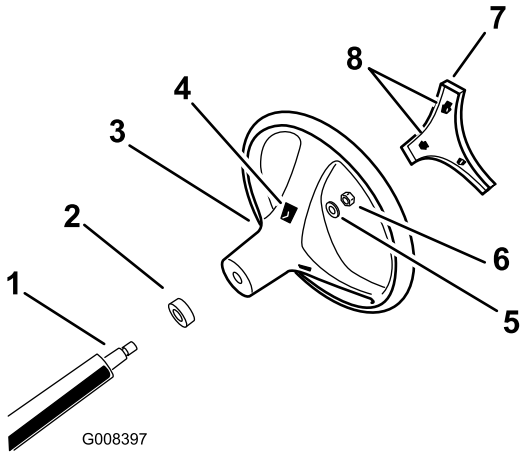

Figure 3
- Secure the steering wheel to the shaft with the locknut and torque the locknut to 24 to 29 N·m (18 to 22 ft-lb) as shown in Figure 3.
- Align the tabs of the cover with the slots in the steering wheel and snap the cover onto the steering wheel hub (Figure 3).